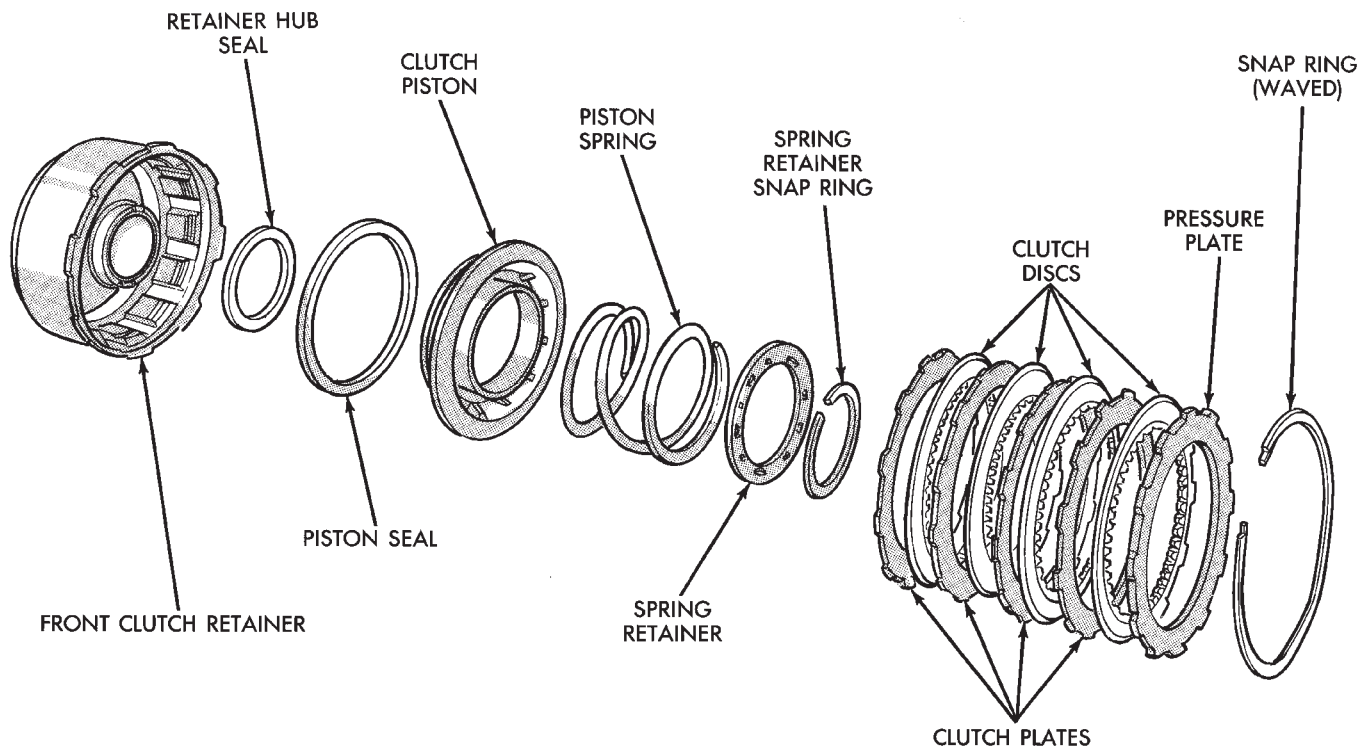

Fig. 159 42RE Front Clutch Components
- (1) Remove waved snap ring and remove pressure plate, clutch plates and clutch discs (Fig. 159).
(8) Install clutch plates and discs (Fig. 159). Install steel plate then disc until all plates and discs are installed. The front clutch uses 4 clutch discs and plates in a 42RE transmission.
(9) Install pressure plate and waved snap ring (Fig. 159).